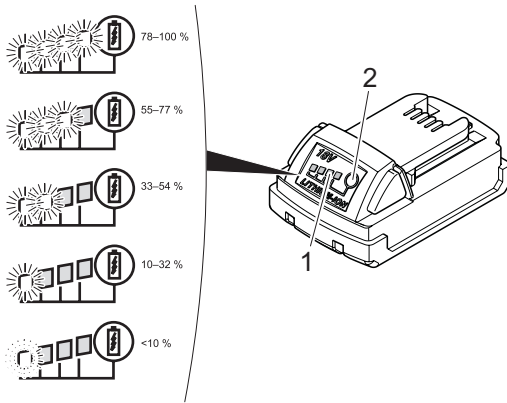

Fig. 9: Checking the battery charge level
► Press button (*Fig. 9/2*).
The number of illuminated LEDs (*Fig. 9/1*) shows the charge status. A flashing LED indicates less than 10 % charge level.